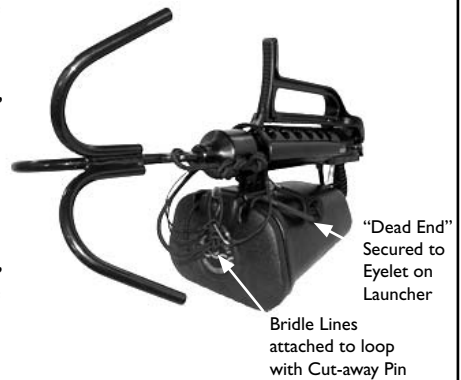

Figure 17f - Climbing Line and Grappling Hook Ready for Deployment
9. Using the Quick-Connect on the bridle line, attach the bridle lines to the loop containing the Cut-away Pin on the Climbing Line or Tactical Ladder. (Fig. 17f)
10. Connect the “Dead End” to the eyelet behind the inverted ‘T’ Bracket of the launcher if using a climbing line. (The Tactical Ladder does not have a ‘Dead End’) (Fig. 17f)